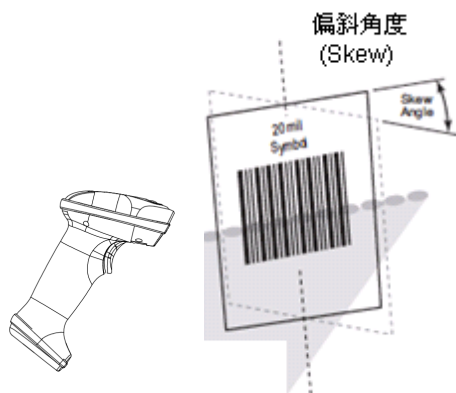

Fig. 1-13
- ◇ Skew:  $\pm 60^\circ$ ,  $0^\circ$  Roll and  $0^\circ$  Pitch (Fig. 1-13)